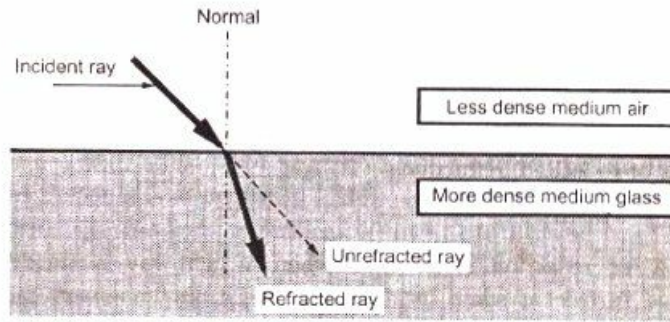

Fig. 1.6.3 Refraction
- When a wave passes through a less dense medium to a denser medium, the wave is refracted (bent) towards the normal. Fig. 1.6.3 shows the refraction phenomena.